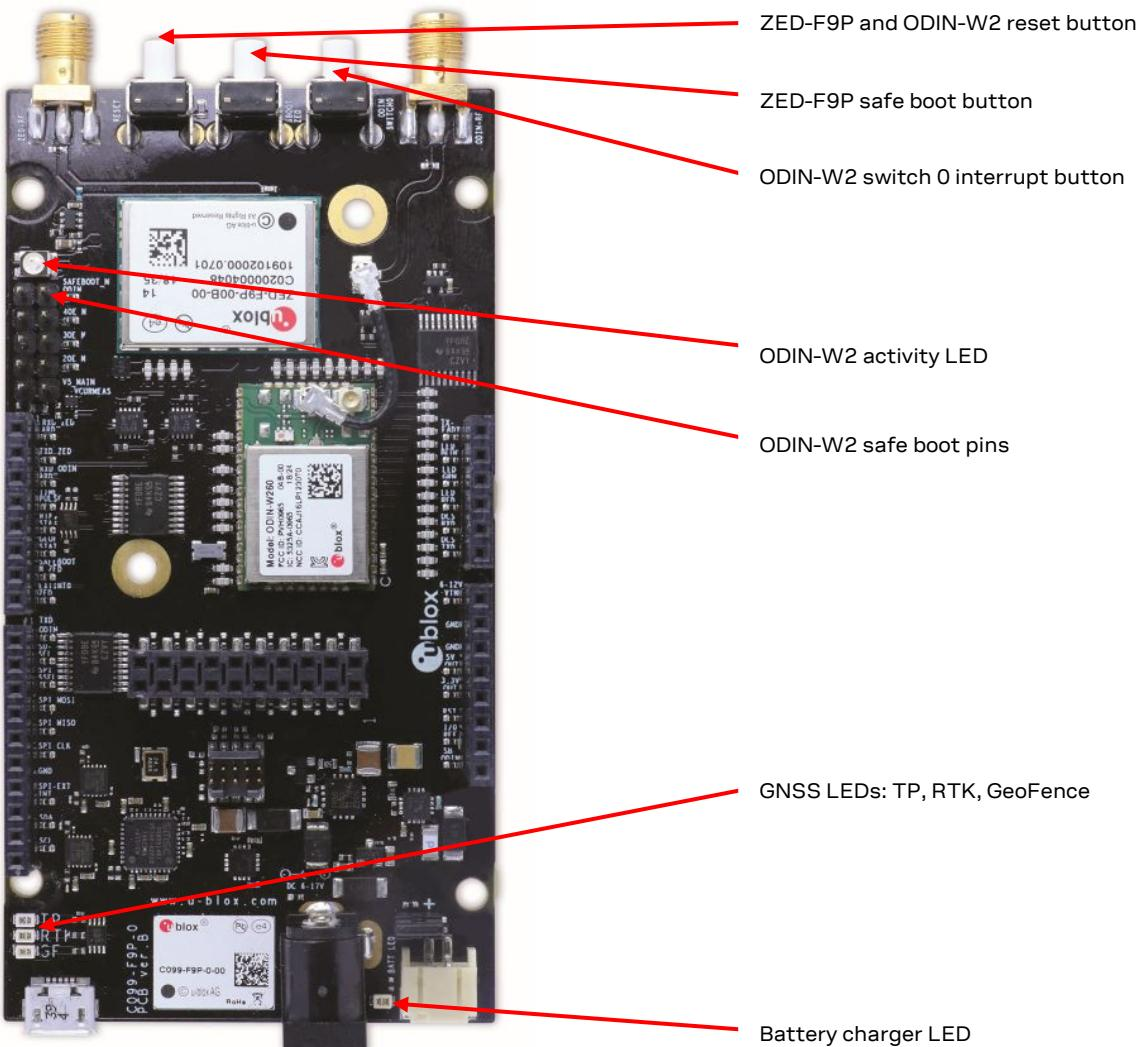

Figure 6: Switches and LEDs
- Switches and LEDs – Figure 6